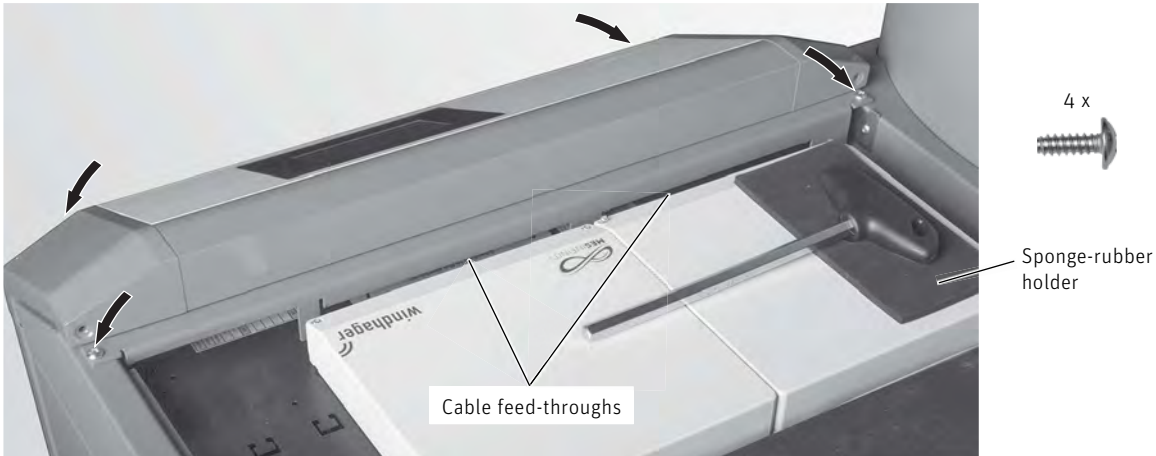

Fig. 119 Attach and screw on the operating panel
- ▶ Bend the cable feed-throughs inwards on the operating panel, attach the operating panel and secure it with 4 self-tapping screws – Fig. 119.
- ▶ Stick on the sponge-rubber holder for the Allen key – Fig. 119.